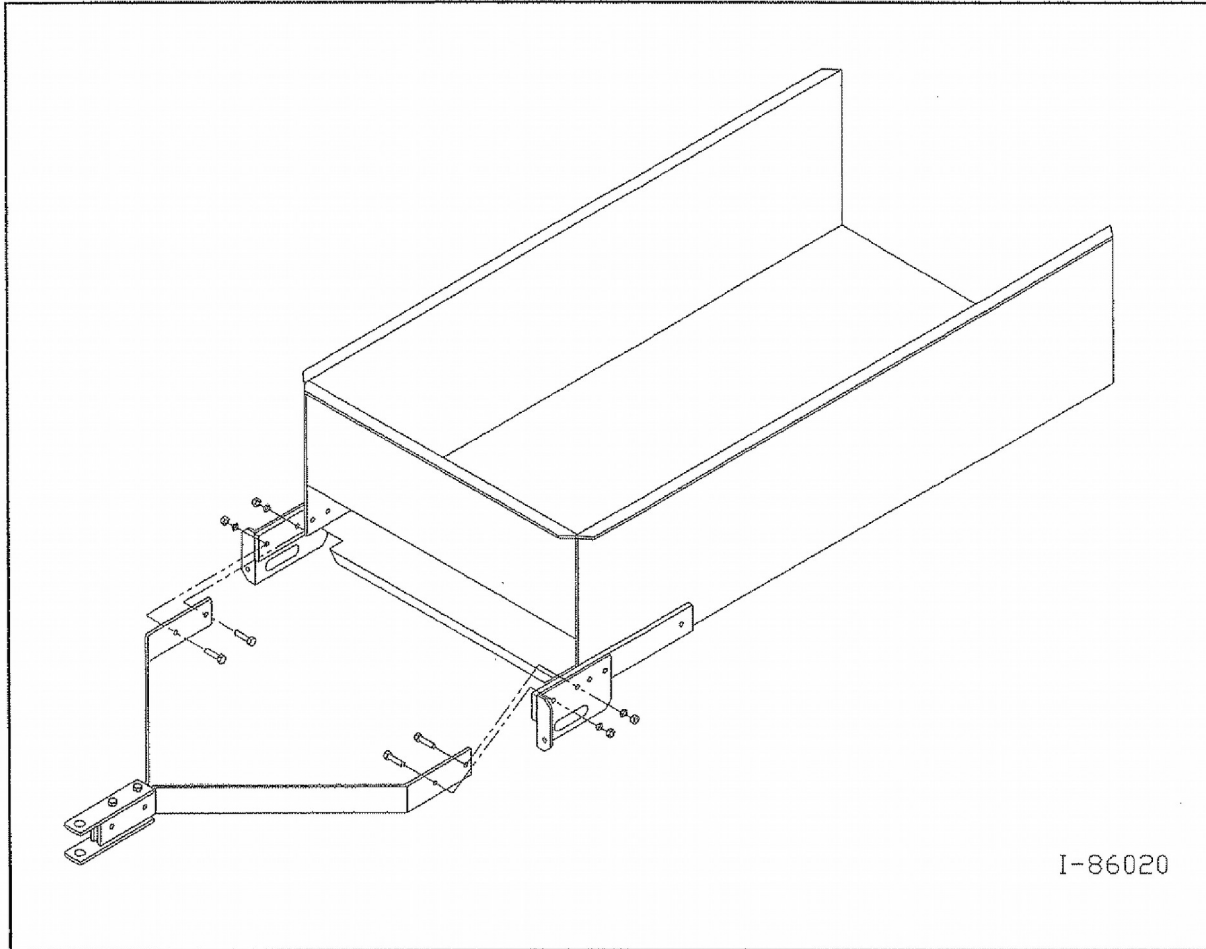

Figure 2A - Installing the Hitch on the Front of the Model 15 Spreader
1. Refer to Figure 2A.
2. Loosen the four (4) bolts on the front brackets (two on each side).
3. Position the legs of the hitch on the inside surface of the spreader front brackets, being sure to carefully align the pre-drilled holes as shown in Figure 2A.